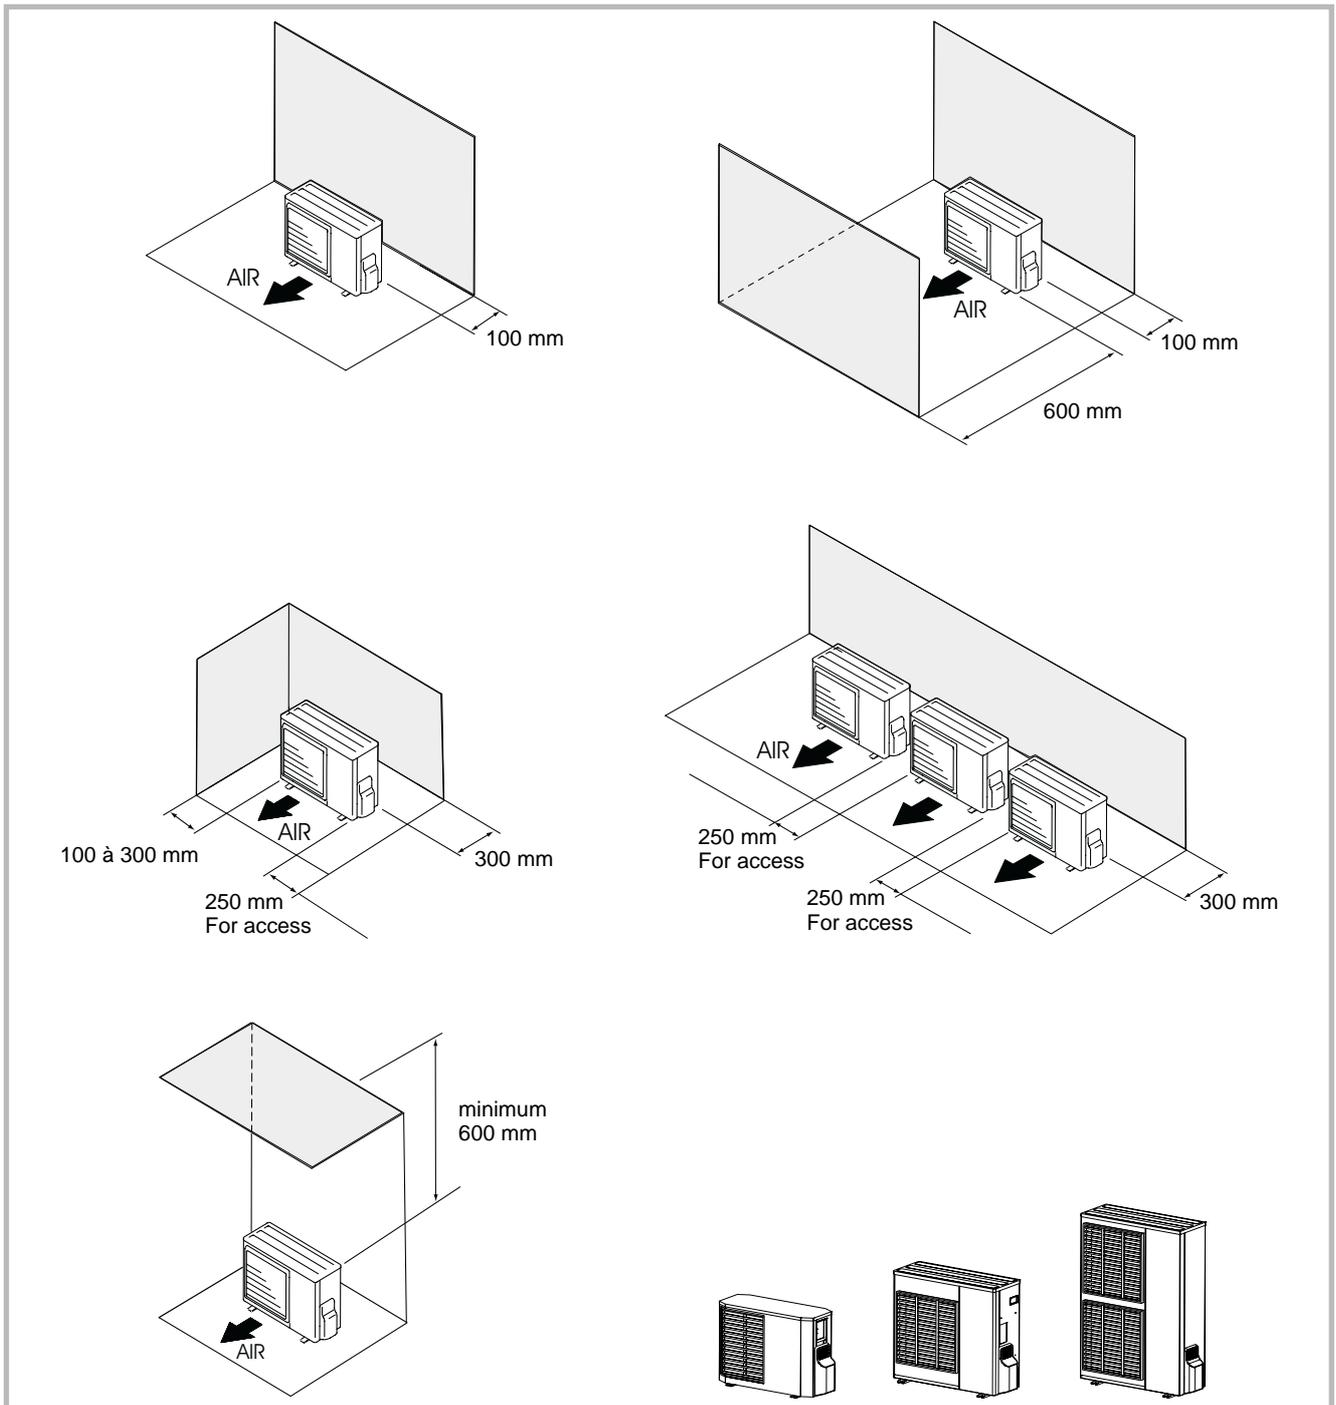

Figure 12 - Minimum installation clearances around outside unit (all models)
The outside unit must only be installed outside (outdoors). If a shelter is required, it must have broad openings on the 4 walls and observe the installation clearances (fig. 12).
- The unit must be easily accessible for future installation and maintenance work (fig. 12).
- Nothing should obstruct the air circulation through the evaporator and from the fan (fig. 12).